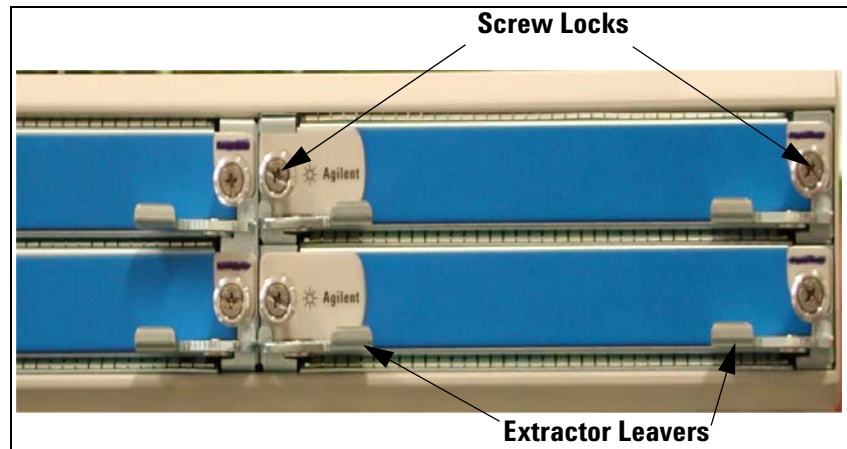

Figure 2 Chassis with I/O Modules
- Figure 2. Chassis with I/O Modules 11
Figure 2 shows the Chassis with all I/O modules attached to it. The following procedure shows you how to remove an I/O module from the chassis.